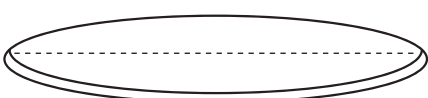

Fig. 1
- Locate a suitable location for the fixture and cut a 6" / 8" / 10" round hole where the LED Downlight (A) will be installed.
- A template (Fig. 1) is provided to assist in proper locating and cutting the hole.